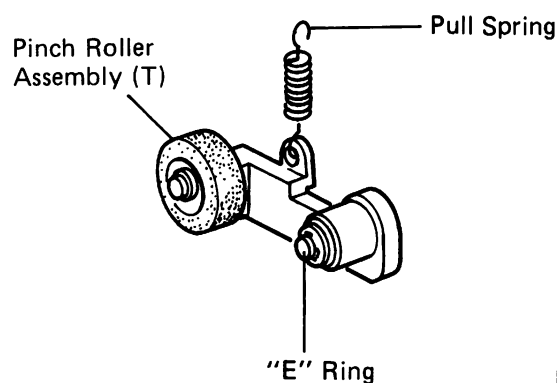

Figure 31
- (1) Remove the cassette deck assembly and then the dust cover assembly.
- (2) Remove the pull spring and the "E" ring to take off the pinch roller assembly as shown in Figure 31.
- (3) After replacing the pinch roller assembly (T) with a new one, clean it with absolute alcohol and assemble it in the reverse way to the disassembly.
- (4) After assembling, confirm tape speed and wow/flutter are suitable according to "Adjustment Procedures".